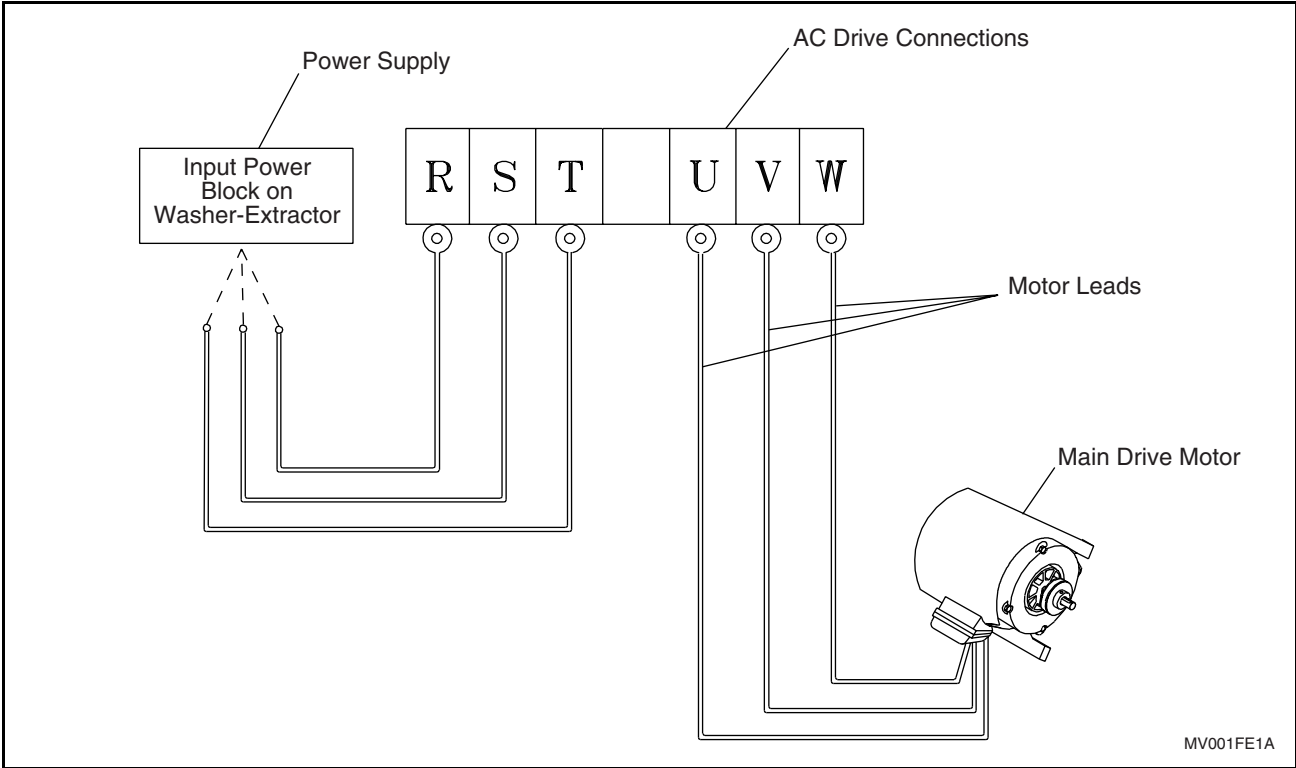

Figure 48
6. Cylinder rotation must be counterclockwise in the extract step. If rotation is not counterclockwise in the extract step, disconnect power. For variable-speed models, have a qualified electrician reverse any two motor leads at the AC drive terminal block (terminals U, V, and W). See Figure 48. For 2-speed and 3-speed models, have a qualified electrician use the wiring diagram included with the machine to determine which input power leads should be switched.